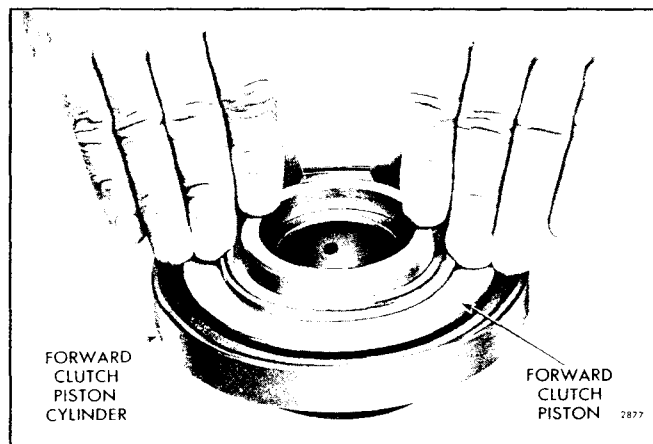

Fig. 60 - Installing Forward Clutch Piston in Clutch Piston Cylinder
- j. Lubricate the forward clutch piston inner and outer seal rings with engine oil; then, start the forward clutch piston with seal ring straight into the bore of the forward clutch piston cylinder, with the flat side of the piston facing down. Then push the piston straight down in the cylinder until it bottoms as shown in Fig. 60.